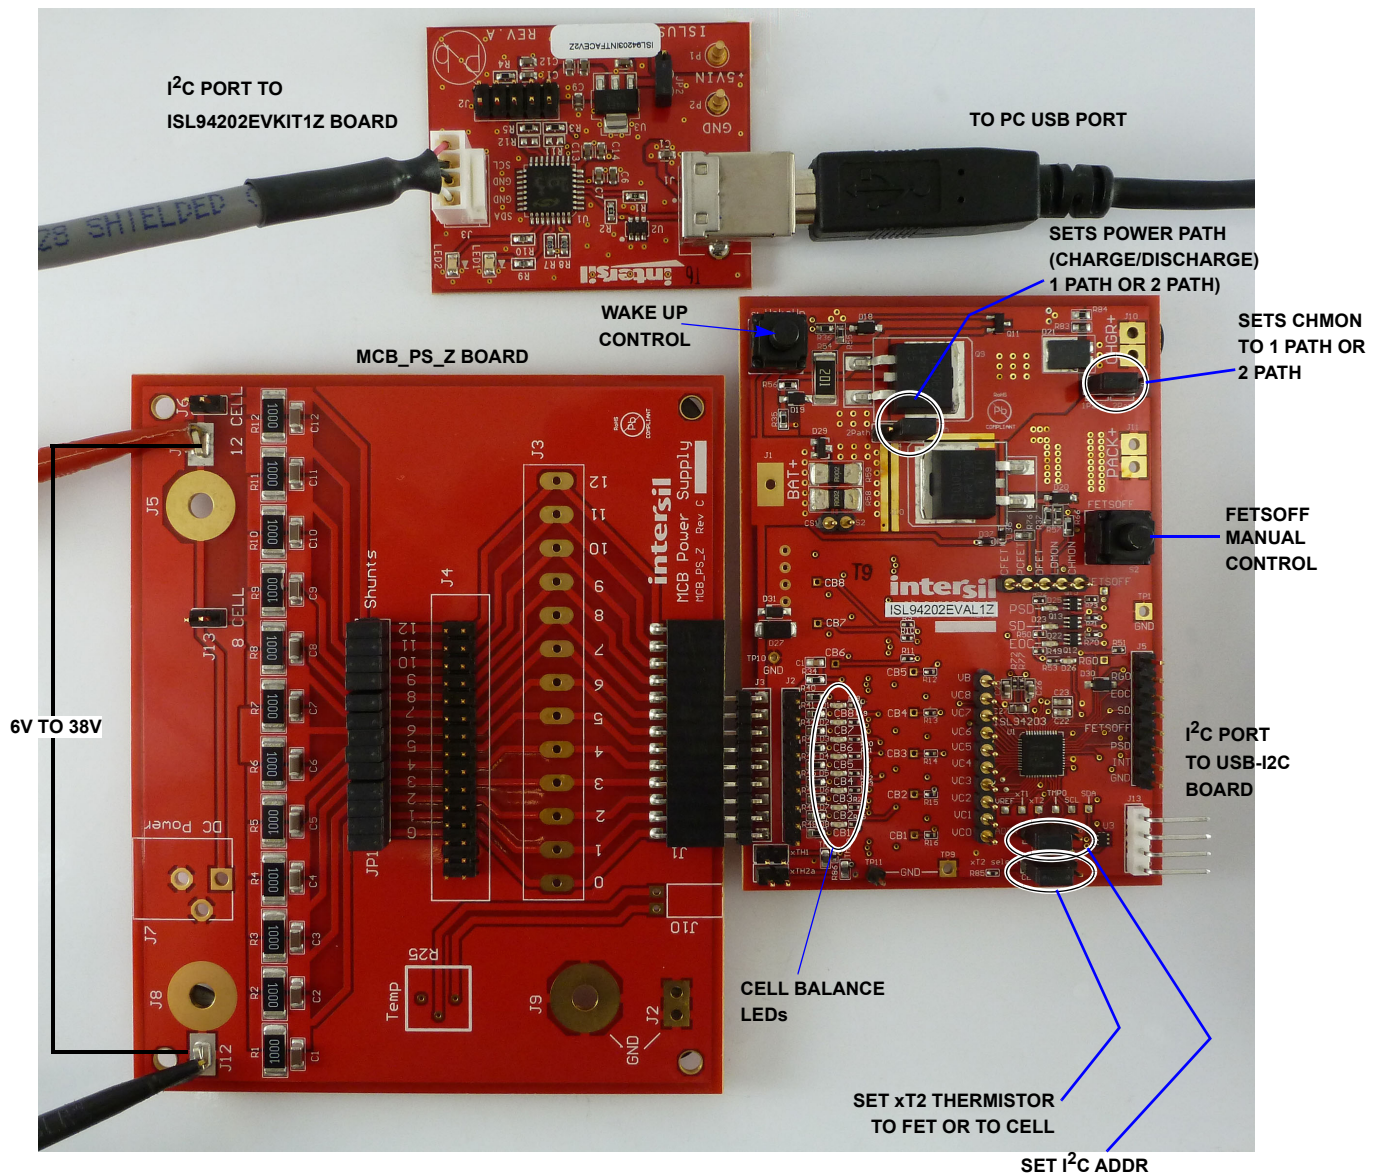

FIGURE 4. ISL94202EVKIT1Z BOARD SETUP
- Step 5:** Connect the ISL94202 board directly to the MCB_PS_Z board at connector J1. Make sure the board is connected on the ground side of J1 (see Figure 4).